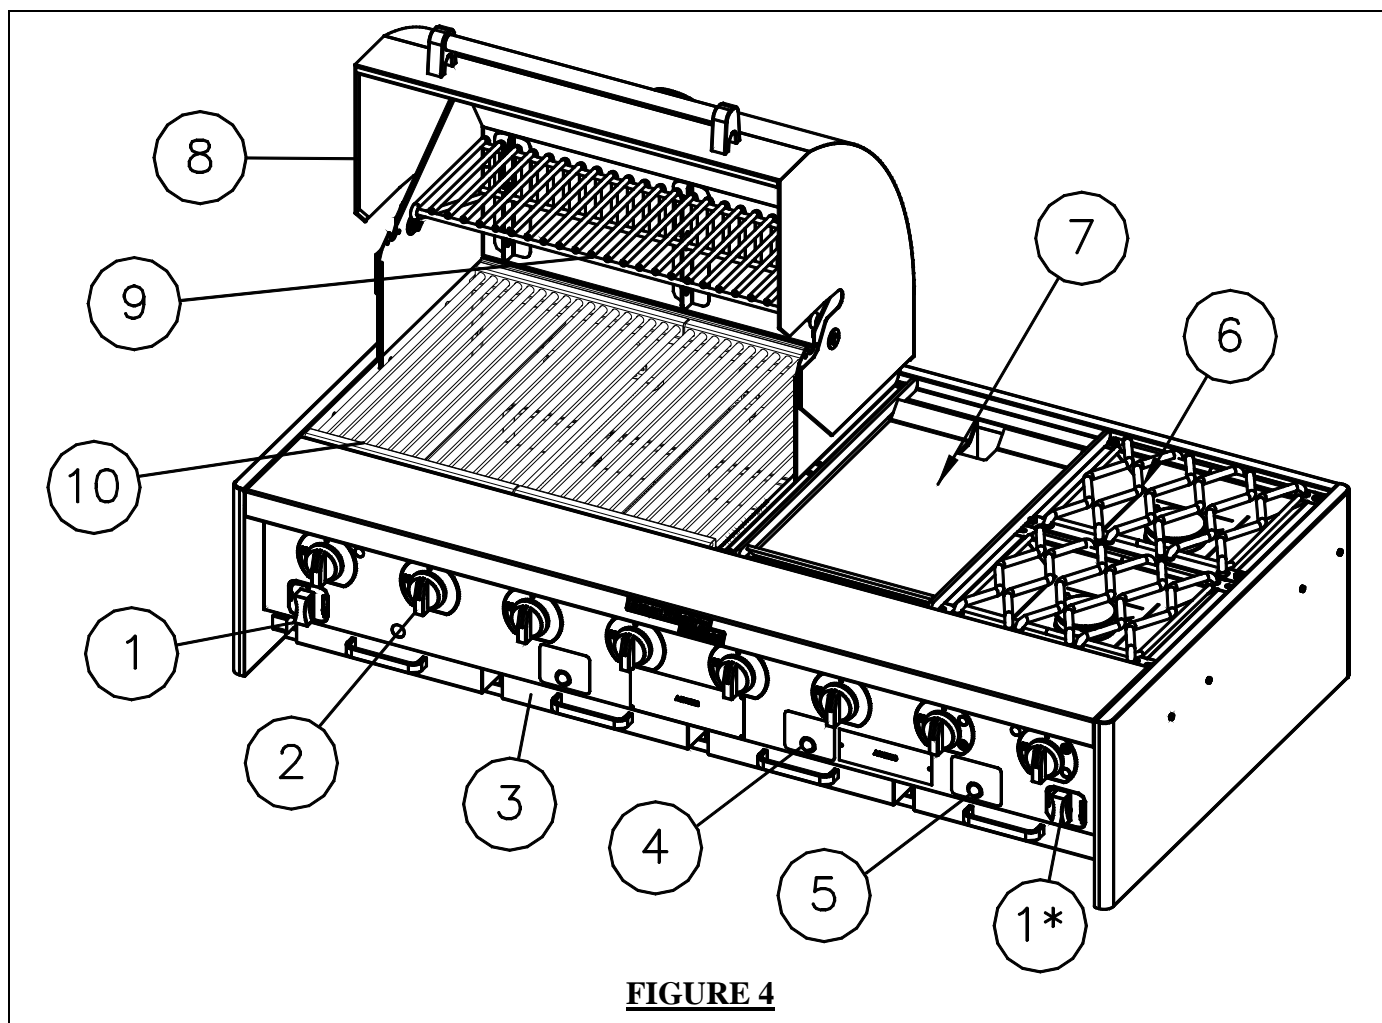

FIGURE 4
The diagram above outlines some of the key operational components of your appliance, see Figure 4.
- D. Verify that the desired side burner (6), See figure 4, is lit. Flame will be visibly emitting from around the entire circumference of the burner if operating properly. If the side burner(s) will not light or stay lit, shut off the gas supply and do not use the unit. Wait 5 minutes before attempting to re-light the unit. After each side burner is lit, the control knob can be changed from Hi to Low as desired, see Diagram 2.